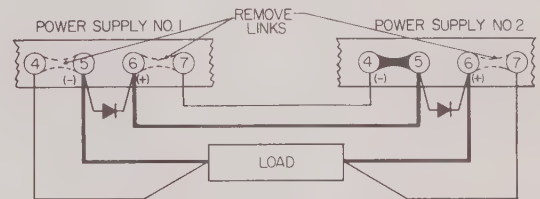

FIG. 3-10 SERIES CONNECTION OF PBX SUPPLIES
3.37 General: Kepco PBX Modules can be series-connected for increased voltage output provided the specified limits on voltage to chassis are not exceeded. When series-connected, the supplies should be protected by means of a semiconductor diode across the output terminals of each power supply, as shown in Fig. 3-10. The peak inverse rating of these diodes must be at least as large as the output voltage of the supply to which they are connected. The continuous current rating of the diodes should be at least as great as the largest short-circuit current of the interconnected supplies.
- 3.38 Procedure (Refer to Fig. 3-10)
- Connect load as shown in Fig. 3-10. Keep voltage drop in load wires as low as practical by using heavy gauge wire.